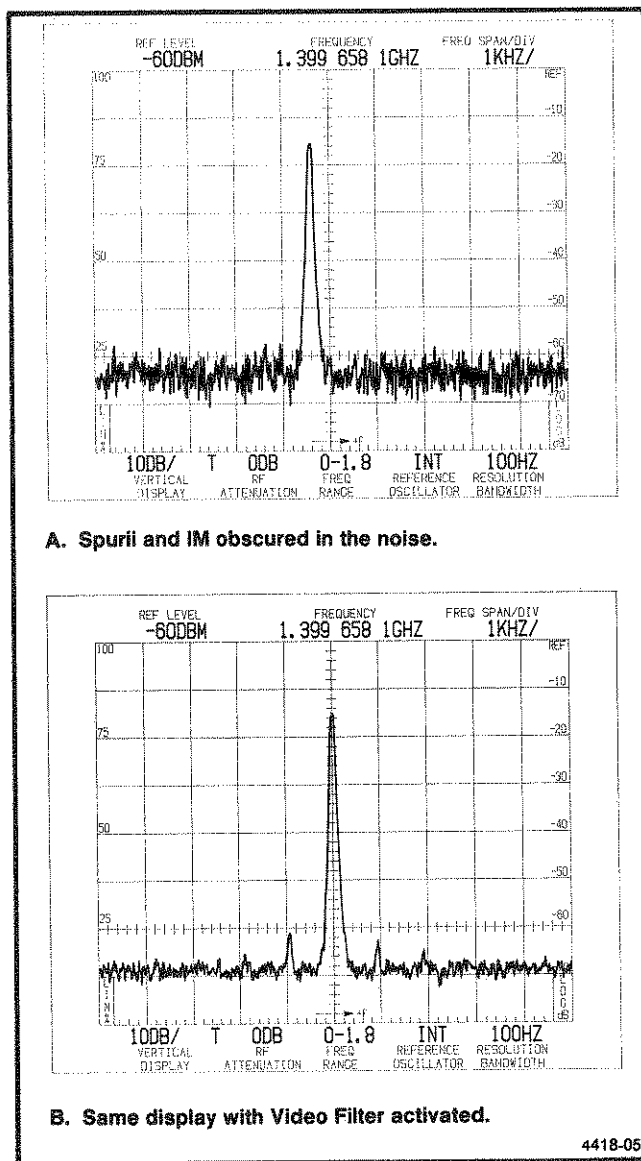

Figure 5-3. Integrating a display with the Video Filter.
- (1) Change the FREQ SPAN/DIV to 500 kHz, switch AUTO RESOLN on, and tune the calibrator signal to center screen.
- (2) Activate WIDE and NARROW Video Filters and note the reduction in noise as each filter is switched in (see Figure 5-3). The NARROW filter will have a more pronounced effect on noise reduction. Also note the change in sweep rate, if the TIME/DIV selector is in the AUTO position.
- (3) Switch both Video Filters off.